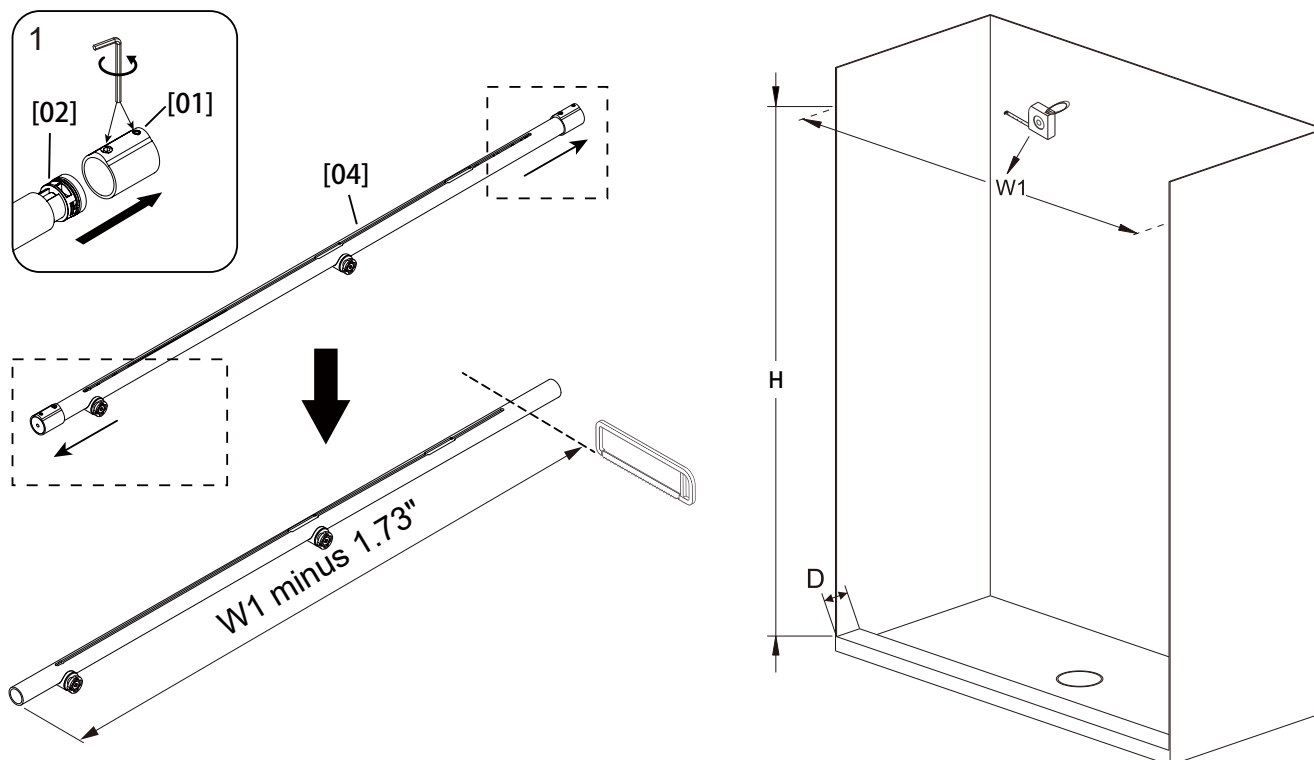

Fig 1
- This model requires a minimum 2.76" (70mm) of flat level threshold for installation. (Dimension "D" of Fig 1)